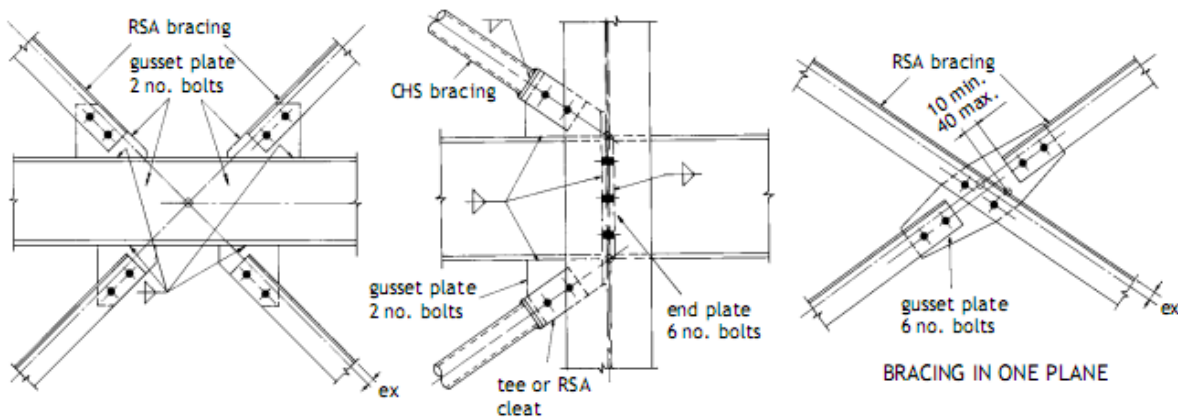

Figure Q1(a)
- (a) Draw the typical bracing details shown in Figure Q1(a) to a suitable scale, making any necessary assumptions of the section sizes. (12 Marks)